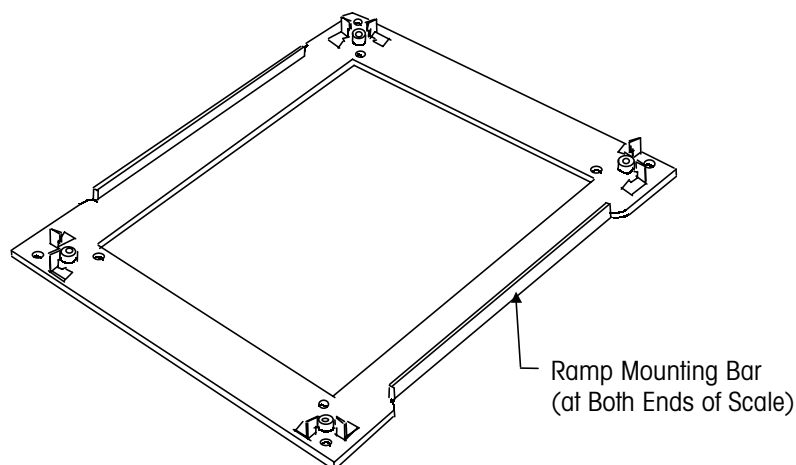

Figure 4-1: Support Frame
2. To install a ramp, place the mating end of the ramp over the ramp mounting bar (see figure 4-1).